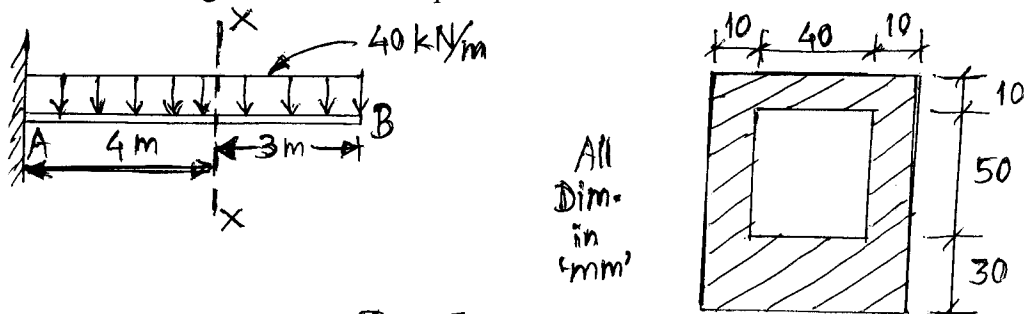

Fig.5
- Q.3 A beam AB and its hollow rectangular section are shown in fig.5. Calculate the maximum bending stresses at the top and bottom fibers at section X-X. (10)